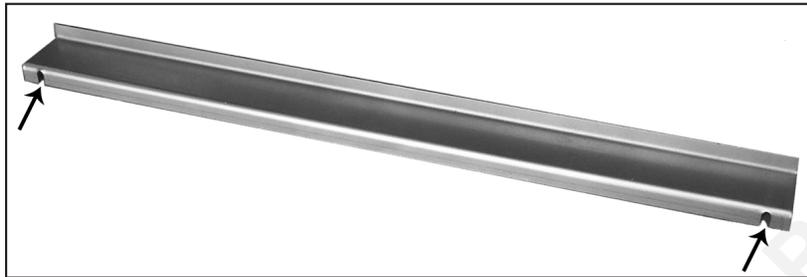

Figure 62: Brick panel bracket, slots shown.
1. Remove the two (2) screws from the rear of the baffle, use a $\frac{1}{4}$ " socket or a flat head screwdriver. Place the provided brick bracket (Figure 62) at the rear of the baffle with the slots over the screw holes (see Figure 63). Insert two (2) of the provided screws into the two (2) holes along the bottom of the baffle.